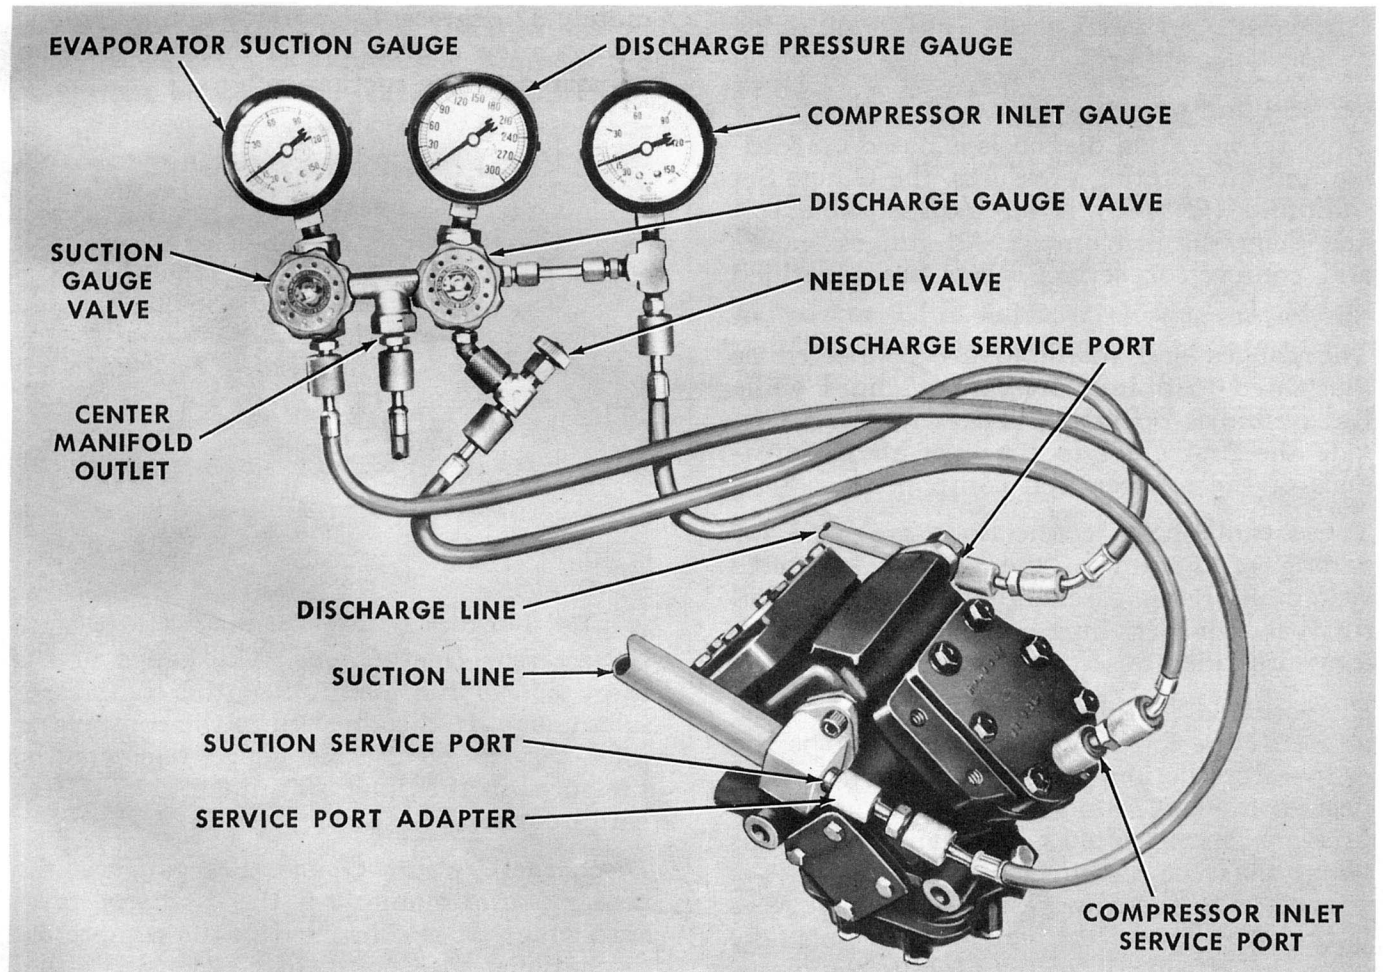

Fig. 1—Gauge set manifold connections
Since refrigeration diagnosis is based on reading and interpreting pressures, the Gauge Set Manifold (C-3740) is an indispensable test and diagnosis instrument. All gauges, valves and compressor service ports are identified in Fig. 1.
**Connecting and Purging The Test Hoses.** Install the gauge set manifold test hoses—engine *not* running. Figure 1 identifies all of the test connections to be made at the compressor service ports and the gauge manifold. After tightening all three service port adapters, make certain that the needle valve below the discharge gauge is open. The following procedure will purge all air from the test hoses and gauge manifold: